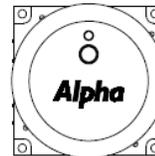

Fig 3
4. Installing the Boiler Receiver Unit (Fig 3)